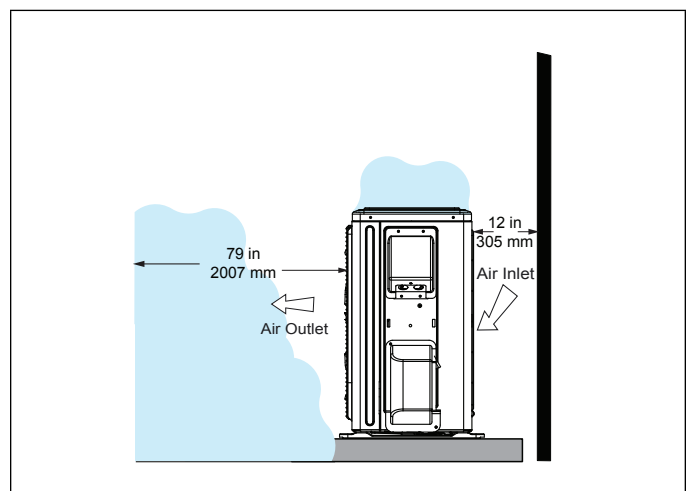

Figure 26. Outdoor Unit Air Flow Obstructed by Snow
- In heavy snow areas, do not place the unit where drifting will occur as illustrated in “Figure 26. Outdoor Unit Air Flow Obstructed by Snow”